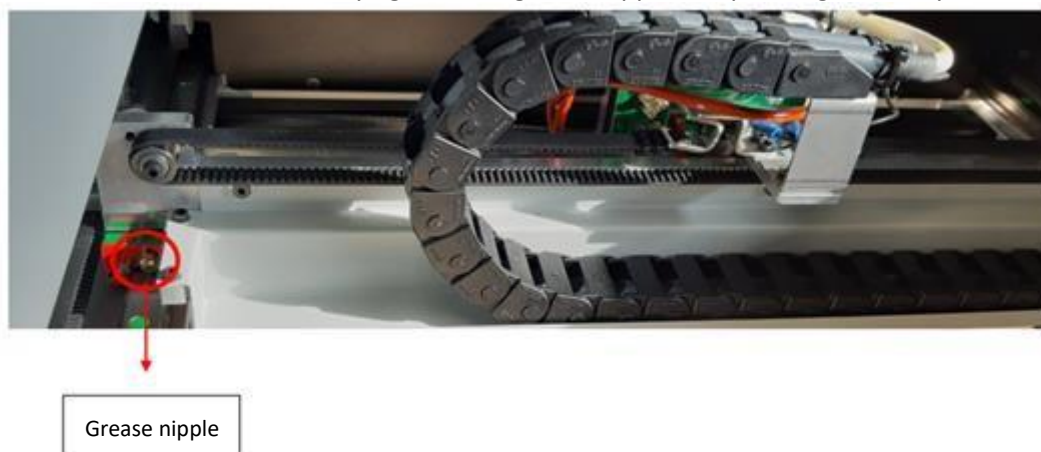

Fig. 31 Lubricating the front linear carriage of the X axis
- Push grease into the grease nipple of the front linear carriage of the X axis (Fig. 31) by pressing the lubricator nozzle firmly against the grease nipple and pressing smoothly the lubricator lever once.